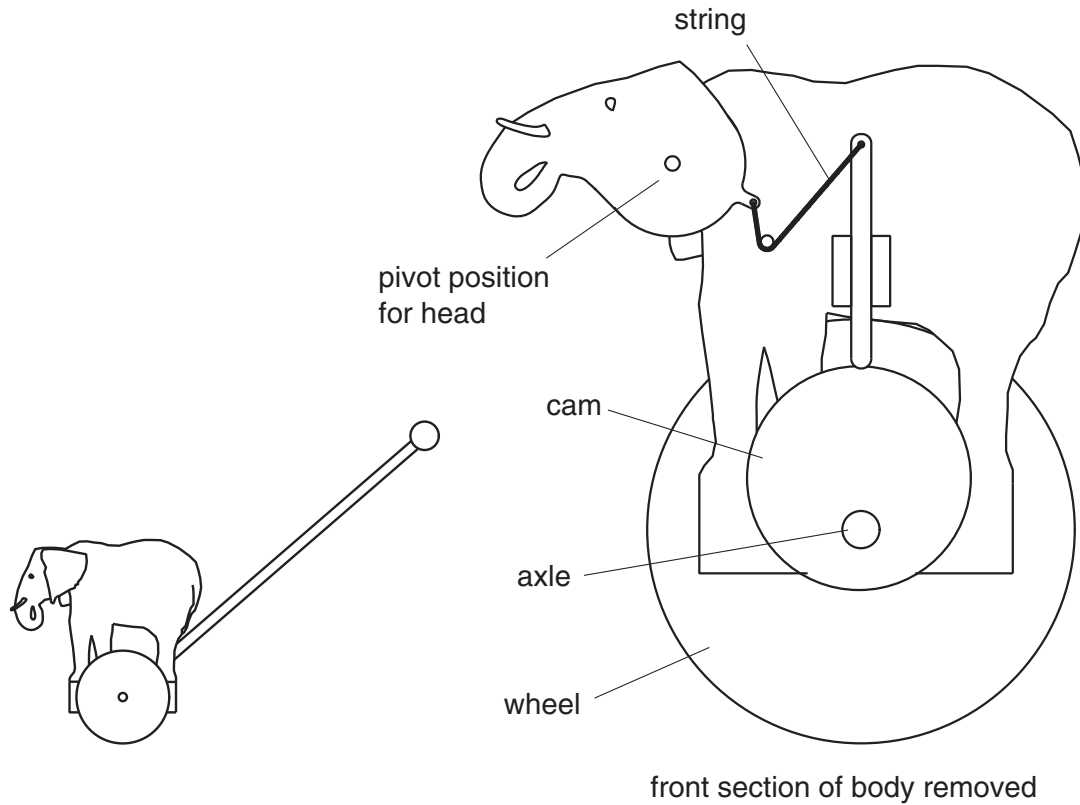

Fig. 11
- 5 (a) Fig. 11 shows the profile of an elephant that is to be developed into a push along toy. A circular cam will make the head of the elephant move as the toy is pushed.